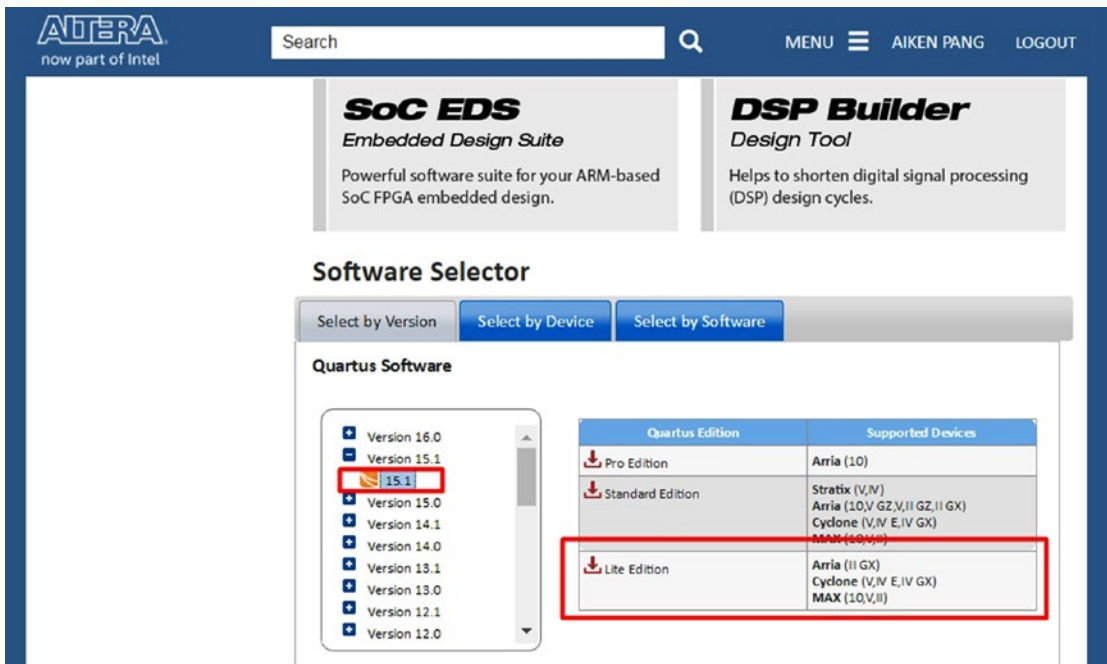

Figure 3-5. Altera Downloads selection
2. You'll be taken to the Quartus Prime edition's selection page. All you need to do is click Version **15.1** and click **Lite Edition** on the right-hand side (Figure 3-5). Or you can use this link (<http://dl.altera.com/15.1/?edition=lite>) to directly access the download page for the lite edition.